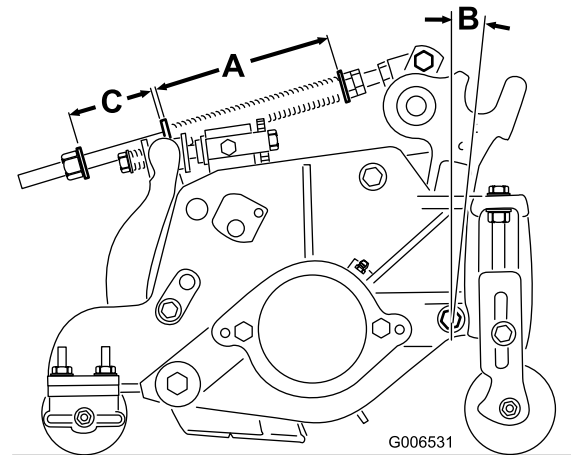

Figure 16
The Turf Compensation Spring (Figure 16) transfers weight from the front to rear roller. This helps to reduce a wave pattern in the turf, also known as bobbing.
1. Tighten lock nut on rear of spring rod until the gap (C) between rear of spring bracket and front of washer is 2 in. (51 mm) (Figure 16).
2. Tighten hex nuts on front end of spring rod until the compressed length (A) of spring is 6.25in. (159 mm) (Figure 16).